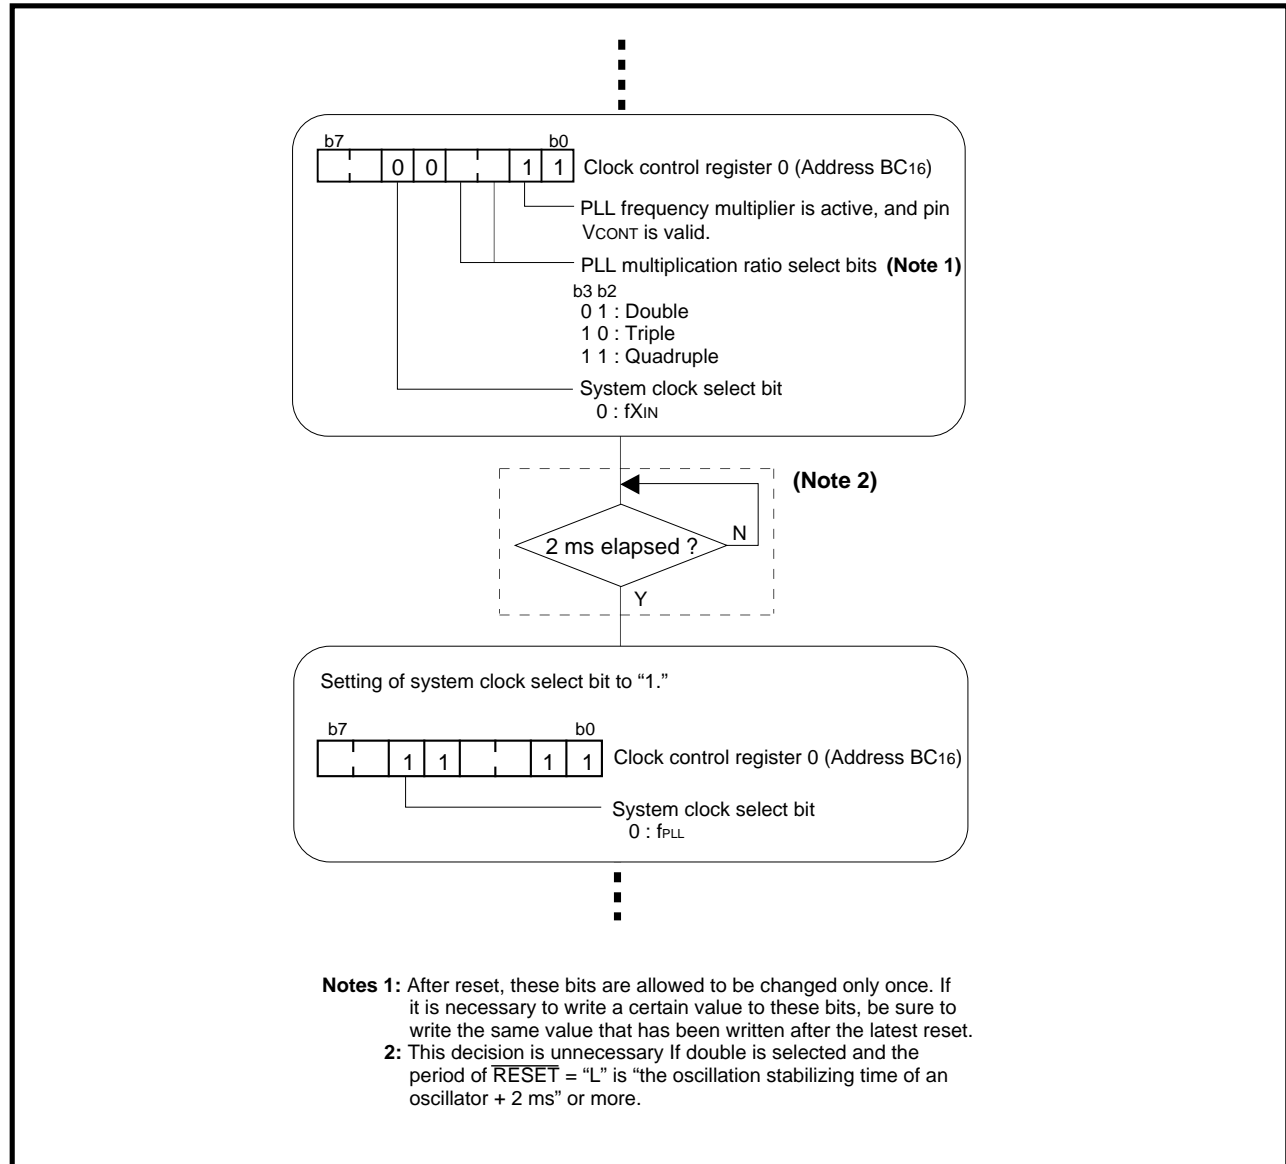

Fig. 4.2.3 Setting procedure for clock control register 0 when using PLL frequency multiplier
Figure 4.2.2 shows the structure of the clock control register 0, and Figure 4.2.3 shows the setting procedure for the clock control register 0 when using the PLL frequency multiplier.
These bits select the multiplication ratio of the PLL frequency multiplier. (See Table 4.2.1.) To rewrite these bits, clear the system clock select bit (bit 5) to "0" simultaneously. Then, set the system clock select bit to "1" 2 ms after the rewriting of this bit. (See Figure 4.2.3.) Note that, after reset, these bits are allowed to be changed only once.
To rewrite the PLL multiplication ratio select bits (bits 2 and 3), clear the system clock select bit to "0" simultaneously. Then, set this bit to "1" 2 ms after the rewriting of the PLL multiplication ratio select bits. (See Figure 4.2.3.)
2. To select f_{PLL} as f_{sys} after reset, set the system clock select bit (bit 5 at address BC_{16}) to "1" 2 ms after $f(\text{X}_{\text{IN}})$ has been stabilized. (See Figure 4.2.3.)
3. To change the multiplication ratio for the PLL frequency multiplier, clear the system clock select bit (bit 5 at address BC_{16}) to "0" simultaneously. Then, set the system clock select bit to "1" 2 ms after the rewriting of the PLL multiplication ratio select bits (bits 2, 3 at address BC_{16}). (See Figure 4.2.3.)